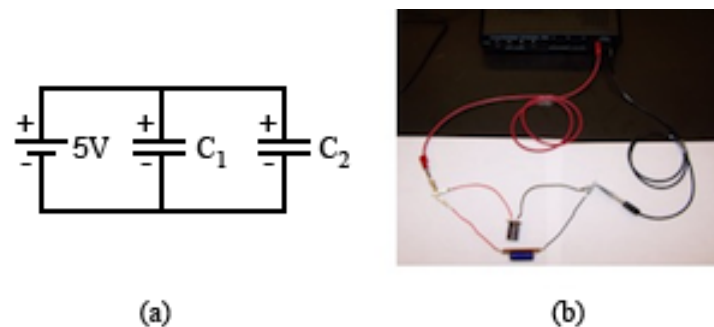

Figure 8: Circuit diagram and photo of capacitors in parallel
- 8 Connect the two capacitors in parallel. Again, the arrows should point in the same direction as shown in Fig. 8.
- 9 Repeat steps 3 through 6 for the parallel arrangement referring to Fig. 8. Record the time for the parallel arrangement on the worksheet.
- 16 Connect the parallel arrangement to the power output leads as shown in Fig. 8.